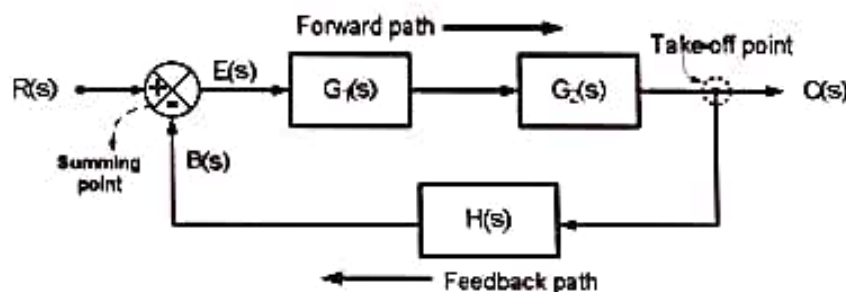

Fig.5.2. A block diagram representation of a system showing its different components
**Take-off point:** It is the component of a block diagram model at which a signal can be taken directly and supplied to one or more points as shown in Fig.5.2.